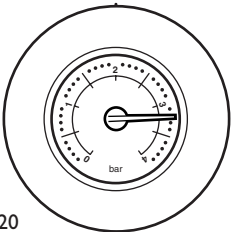

Fig. 20
3. A pressure of 3 or greater indicates a fault. The safety pressure relief valve will operate, at a pressure of 3 (Fig. 20). **It is important that your Installer or Service Engineer is contacted as soon as possible.**